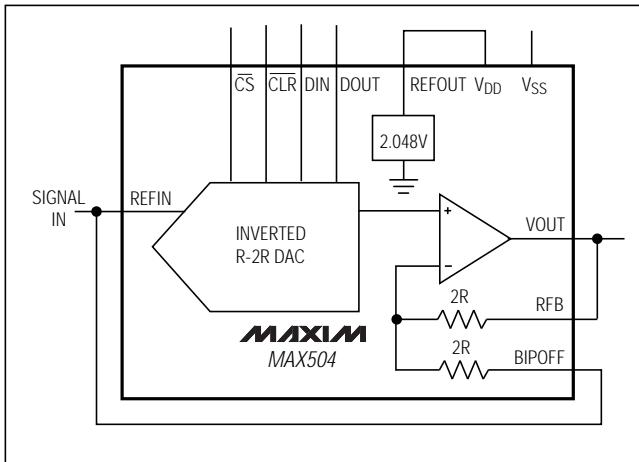

Figure 9. MAX504 Connected as Four-Quadrant Multiplier. The unused REFOUT is connected to VDD.
The MAX504 can be used as a four-quadrant multiplier by connecting BIPOFF to REFIN and RFB to VOUT, and using (1) an offset binary digital code, (2) bipolar power supplies, and (3) a bipolar analog input at REFIN within the range $V_{SS} + 2\text{V}$ to $V_{DD} - 2\text{V}$, as shown in Figure 9.